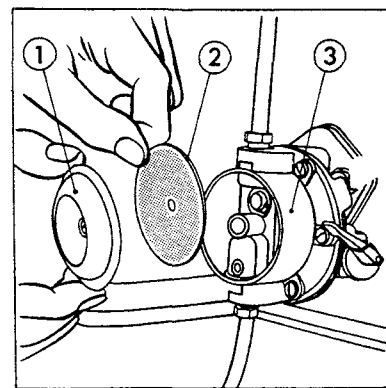

FIG. 31
**TO CLEAN FUEL LIFT PUMP:** Turn off fuel supply valve. Holding receptacle under pump to prevent spilling of fuel into bilge of boat, loosen the center bolt (fig. 31) and remove cover and pulsator. Clean pump thoroughly and wash cover and pulsator in fuel oil. Replace parts carefully. It will be necessary to bleed fuel system. Check for possible leaks after starting engine.